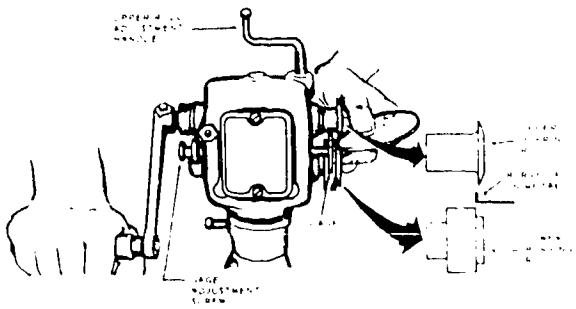

Figure 3-7. Rotary burring machine.
**Rotary burring machine.** A burring machine, such as that shown in figure 3-7, is used to turn flanges and edges on circular discs and cylinders. It is also used for turning edges on elbows and for making double seams and single hems when other machines are not available. An important thing to remember is that it will take considerable time, effort, patience, and practice to turn out a good job.